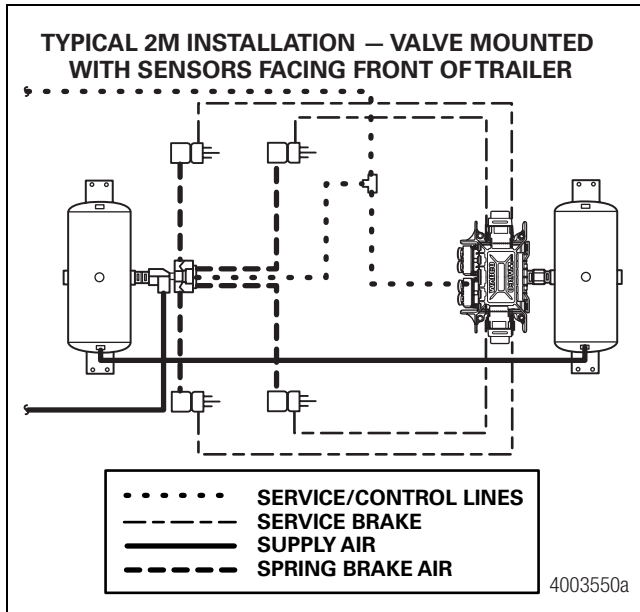
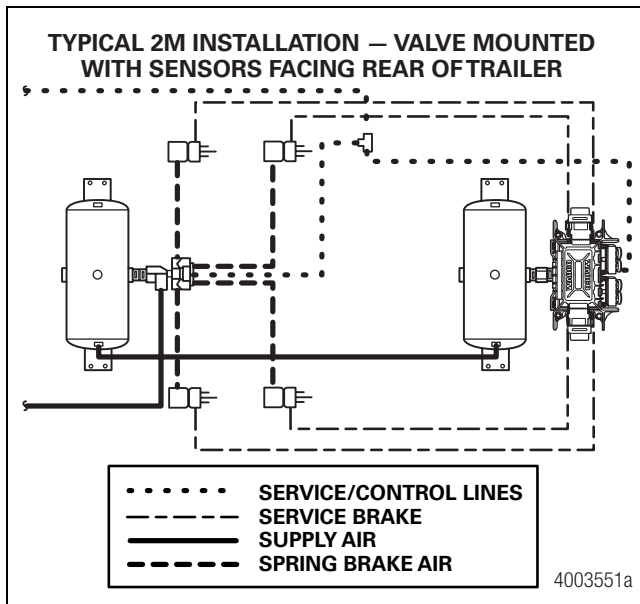

Figure 4
Figure 5
2. Connect the air delivery lines to the appropriate brake chambers (3/8-inch NPTF). Figure 4 and Figure 5.